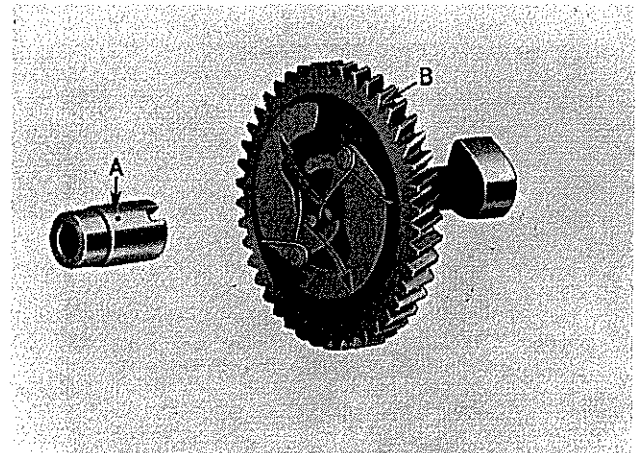

Figure 15
- a. Before installing the camshaft assembly in the block, insert the breaker cam between the springs of the spark advance system as shown in Figure 15.
- c. Spark timing marks (A and B, Figure 15) on the cam and spark-advance side of the camshaft gear must coincide.